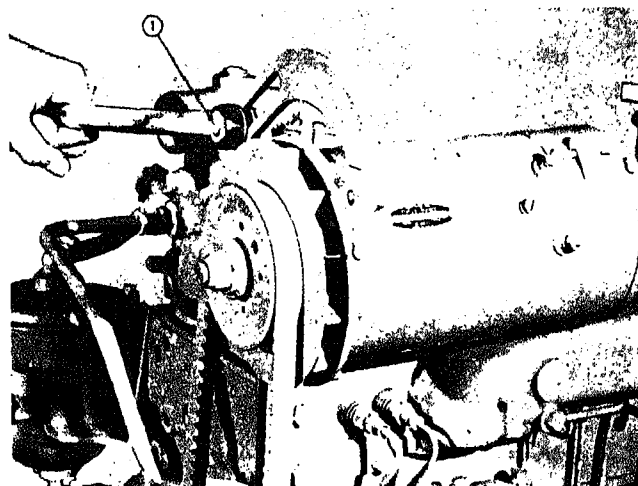

Fig. 0-5. Removing generator belt adjusting screw
1. Remove adjusting capscrew (1, Fig. 0-5), lockwasher, flatwasher and nut securing generator to adjusting bar.